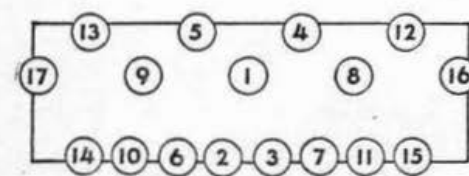

Fig. 2 1949-54 cylinder head tightening sequence
4. Tighten all cylinder head screws in sequence shown in Fig. 2 and to 65-70 pounds feet torque.